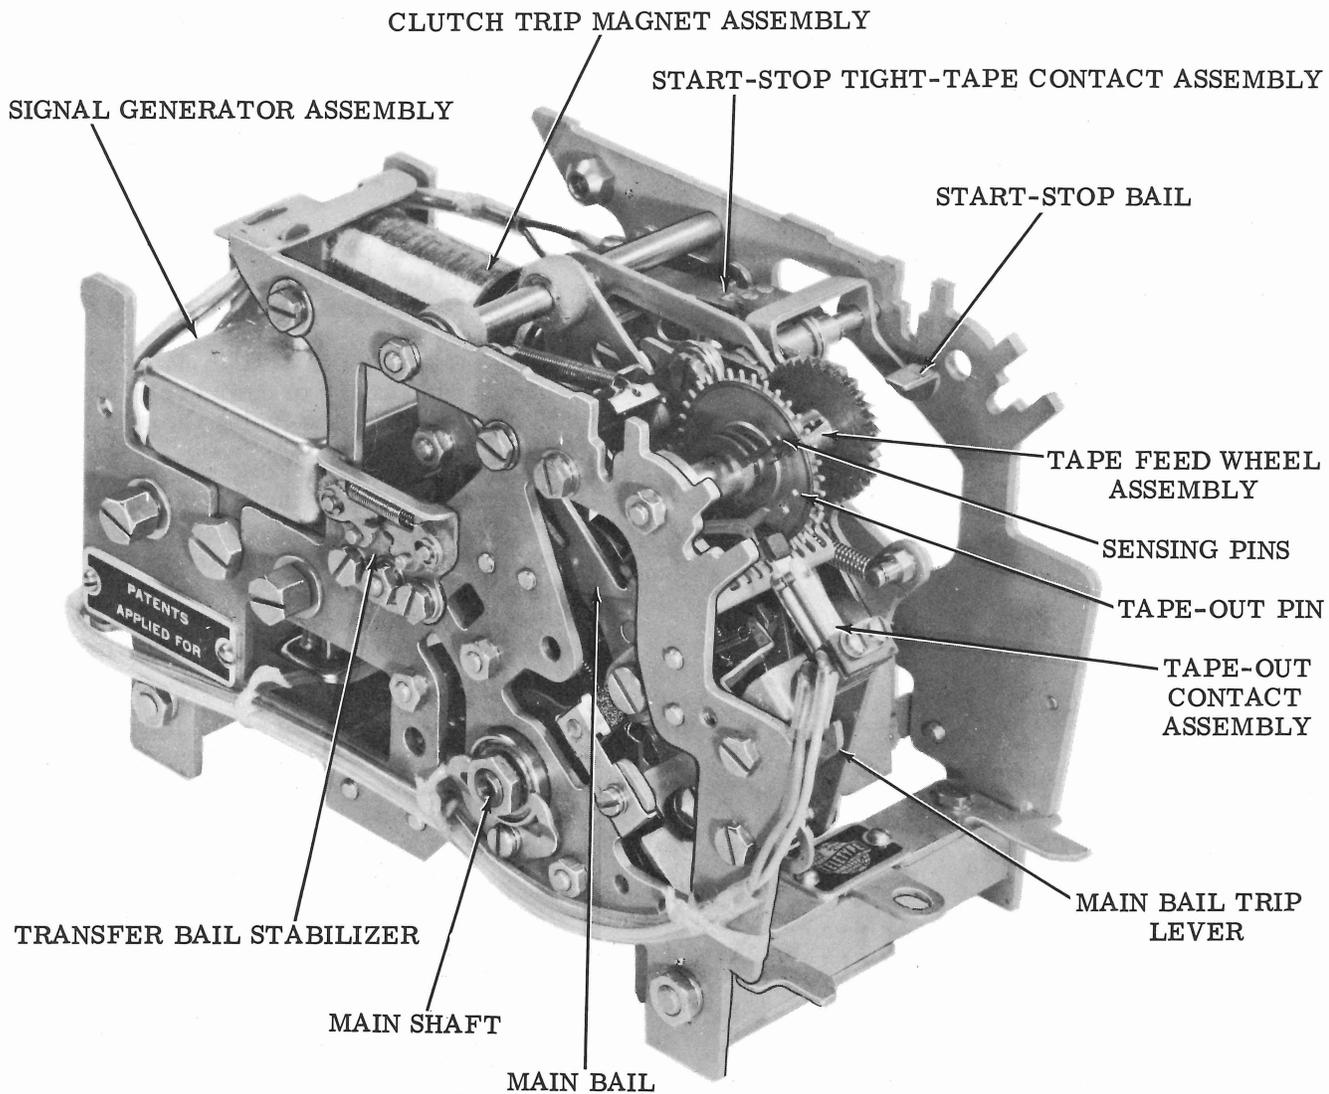

Figure 2 - Transmitter Distributor Unit (Cover Plate, Top Plate and Tape Guideplate Removed)
2.01 The basic operation of the transmitter distributor is to mechanically sense perforated tape and transfer the information to the signal generator, which performs the actual signal transmission (Figure 2).
- (a) The tape sensing mechanism which consists of a bank of 5 sensing pins, each with its corresponding transfer lever and latch lever (Figures 2 and 3).
- (b) The main shaft assembly, (Figures 2 and 3) which is centrally located in the lower portion of the unit, has the outer race of each ball bearing clamped to the respective front and rear plates. The main shaft assembly consists of multiple cams, eccentrics, and a
- (d) A tape-out pin (Figure 2), located to the right of the sensing pins, stops transmission if there is no tape in the sensing head (Figure 5).